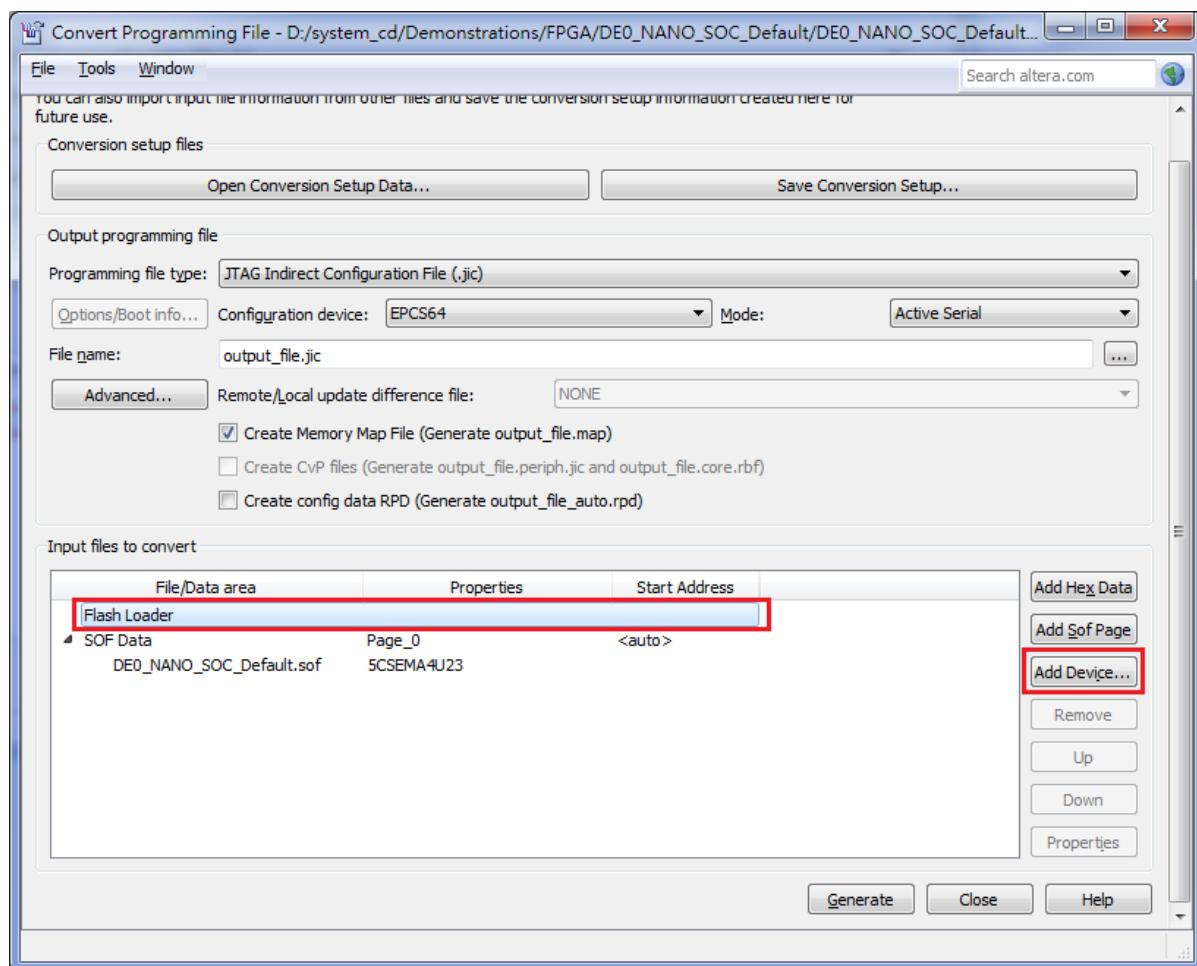

Figure 8-4 Click on the “Flash Loader”
11. Click on the **Flash Loader** and click **Add Device**, as shown in Figure 8-4.